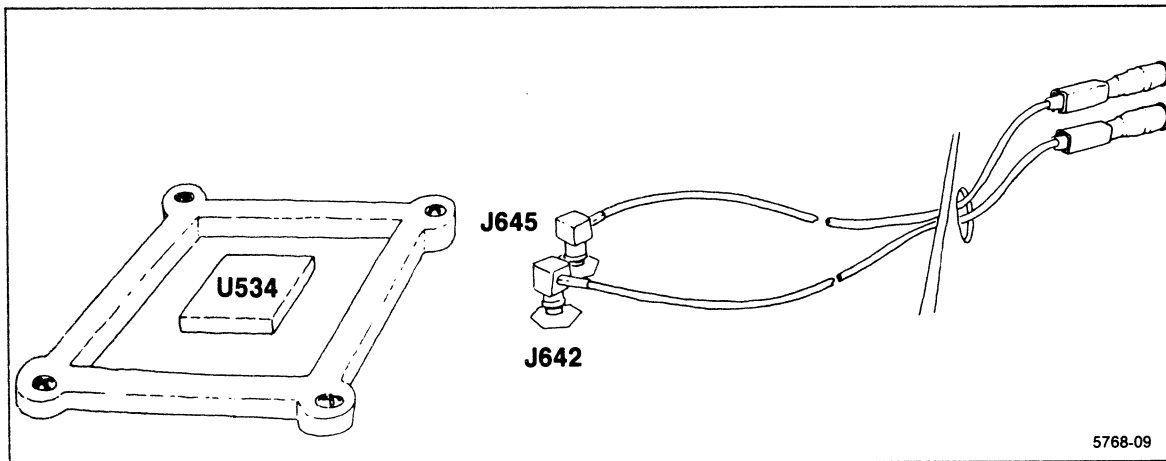

Figure B-9. Connecting clock cables to the 91HS8 Acquisition board.
8. Take the cable with the red marker and connect one end to J645 (+) on the 91HS8 Acquisition board. See Figure B-9.